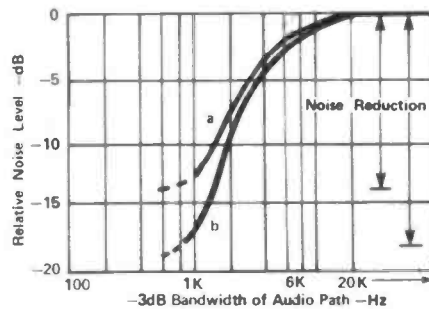

Figure 9: Between 14 and 18dB improvement in S/N ratio can be achieved with a DNR unit.
*Figure 9* shows that when a low pass filter (one or two pole) is included in a 'noisy' signal path, a 14 to 18dB improvement in the noise figure for the system can result.
Two variable bandwidth, low pass filters are cascaded to provide a 12dB/octave roll off for the overall system. Fig. 9 shows the response of one filter for various levels of control voltage.